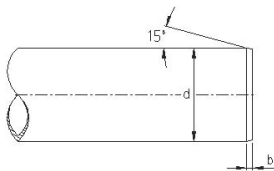

Figure 1. PVC-U pipe joint, dimension b.
- The pipe ends are bevelled at an angle of approx. 15° on the outside (see Fig. 1 and Table 1) and are deburred on the inside.